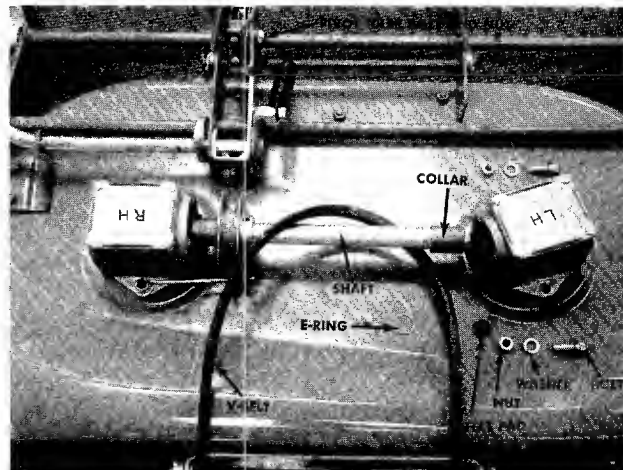

FIGURE 22. DECK BELT REPLACEMENT
Step 1. Engage the blade engagement lever as shown in figure 22.
- Step 2. Remove the E-ring from the shaft, See figure 22.